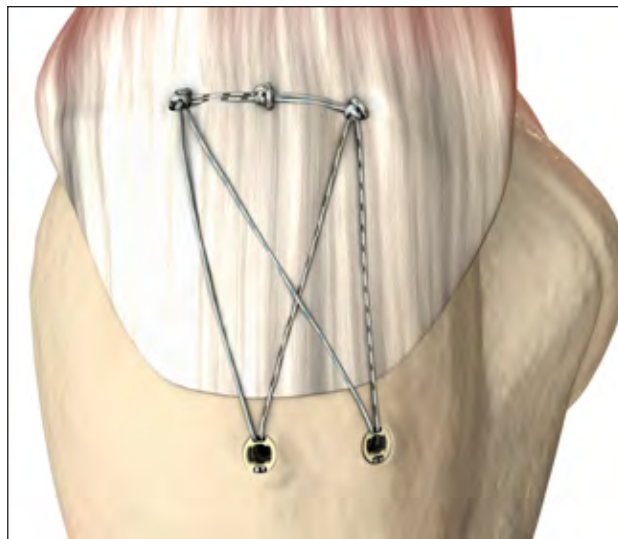

Figure 13
12. *Optional:* Repeat the technique to place a second FOOTPRINT PK anchor. A second anchor provides the option for a crisscross pattern of suture across the cuff tissue. If desired, the second suture in each medial anchor can be tied together leaving a medial bridge (Figure 13), or they can be unloaded and removed from the fixation.